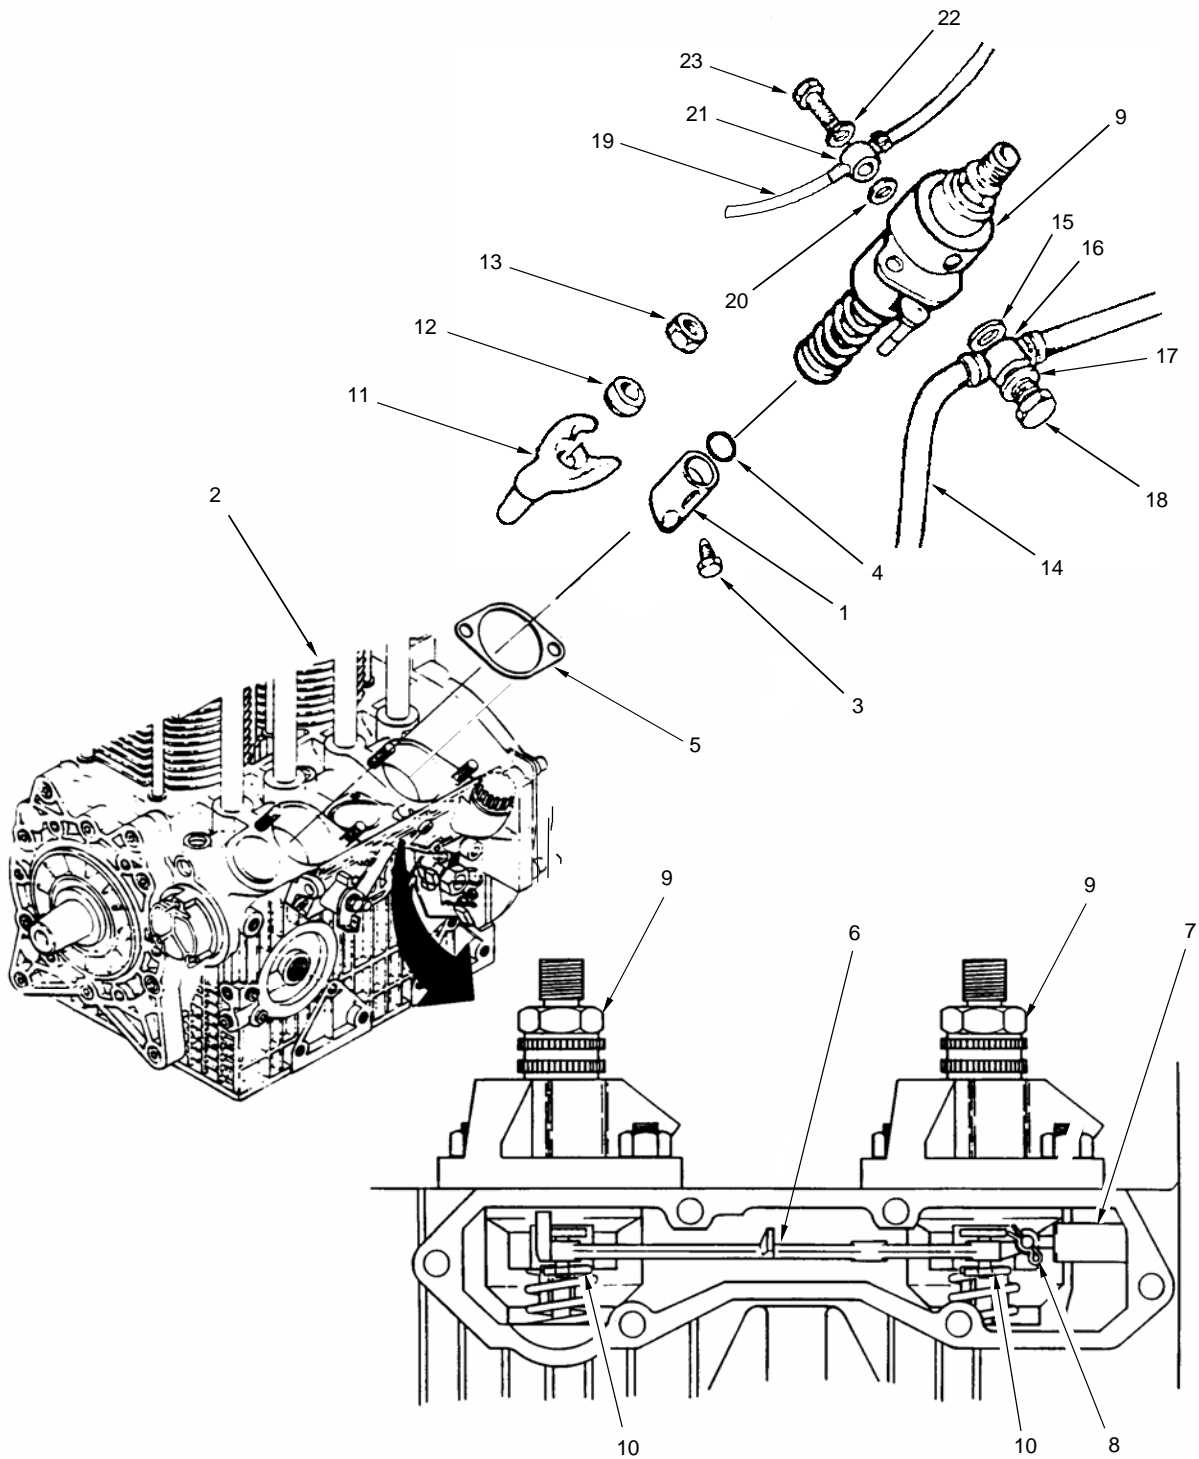

Figure 23. Install Injection Pump
**INSTALL INJECTION PUMP** (Refer to Figure 23.)**INITIAL SET-UP:****Tools:**